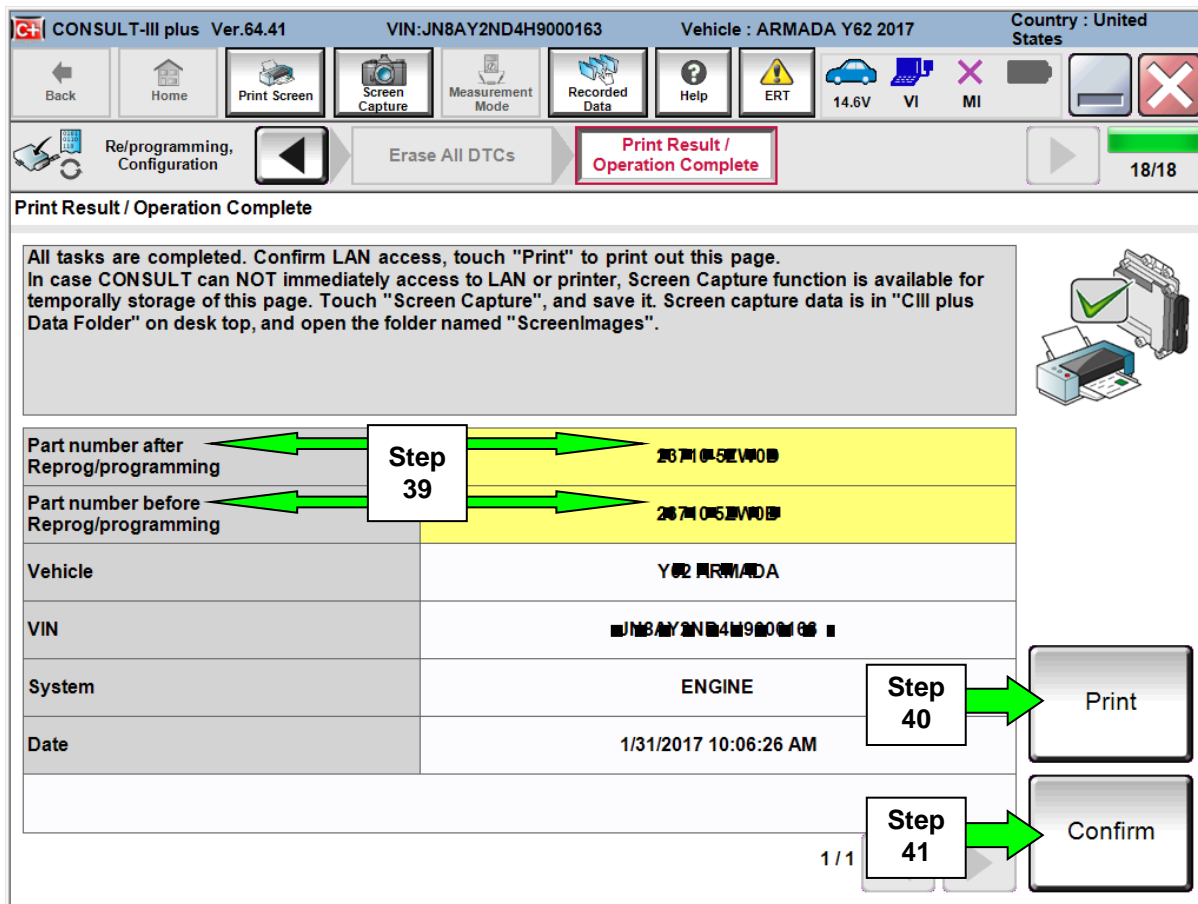

Figure 28
40. Print a copy of this screen (Figure 28) and attach it to the repair order.